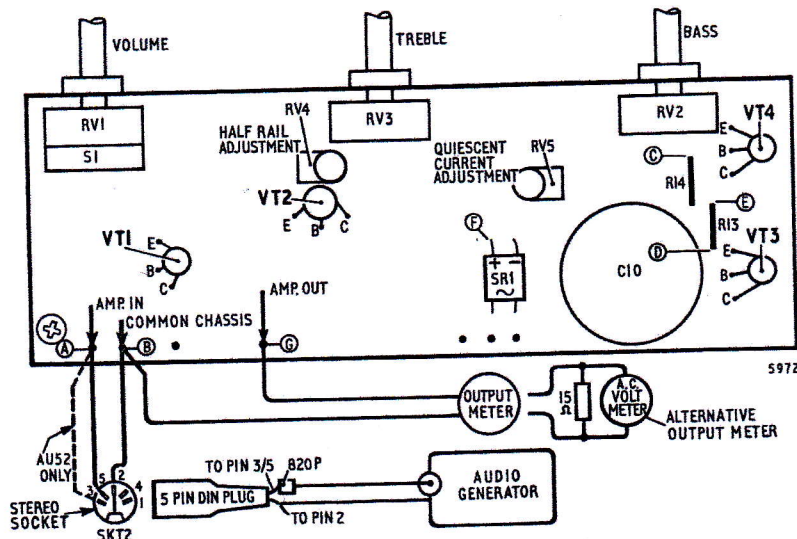

Fig. 3
- 1.3 Connect Multimeter (50 μ A range) between test points 'C' and 'D' (across resistors R13/14) then, adjust the pre-set control RV5 for a current of 6 to 7 mA i.e. 9.25 μ A to 12 μ A. This adjustment should be carried at an ambient temperature of 65°F. See Fig. 3 for location of test points and controls.
- 2.1 Connect Audio Signal Generator and Output Meter as Fig. 3. Set Volume to maximum and Tone Controls to maximum Treble and Bass respectively.